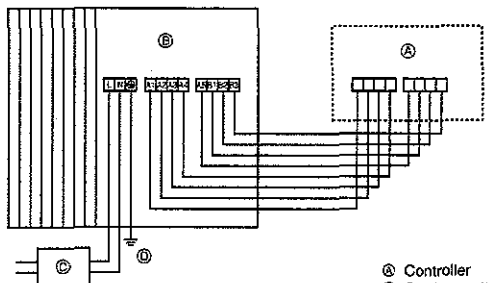
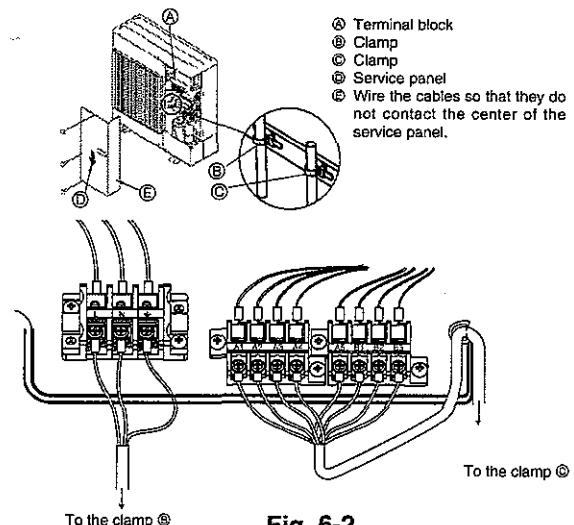

Fig. 6-1
Fig. 6-2
6.1. Outdoor unit (Fig. 6-1, Fig. 6-2)
- 2 Wire the cables referring to the Fig. 6-1 and the Fig. 6-2.